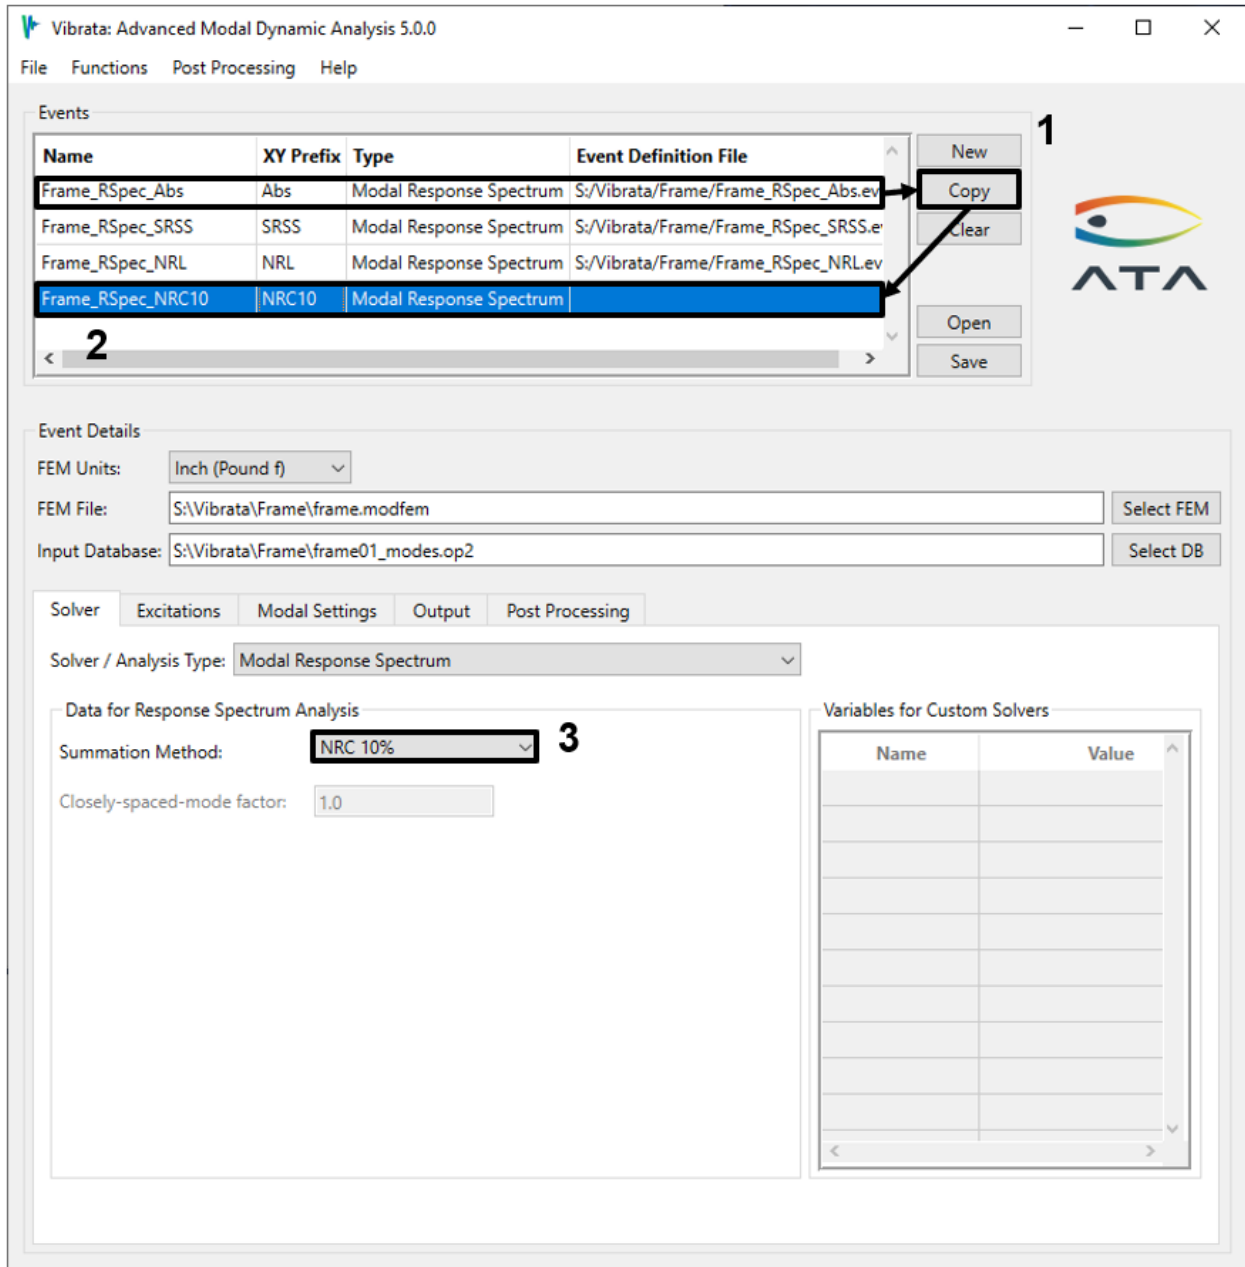

Figure 4-86. Copy again to create a fourth event using NRC summation.
- Copy the first event again and change the summation type to *NRC 10%* (Figure 4-86). This should identify the same modes as closely spaced as in the NRL example above. Solve this event.